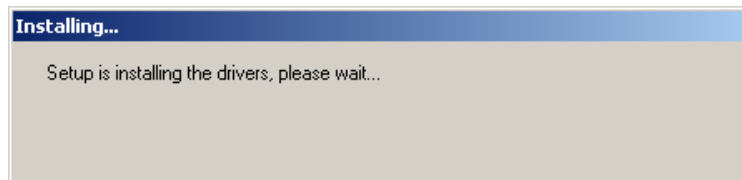

Figure 7-26: Intel® Pro Network Connections Driver Installation Notice
Step 13: Click **Install Base Driver** and an installation notice appears (**Figure 7-26**) as the driver is installed.